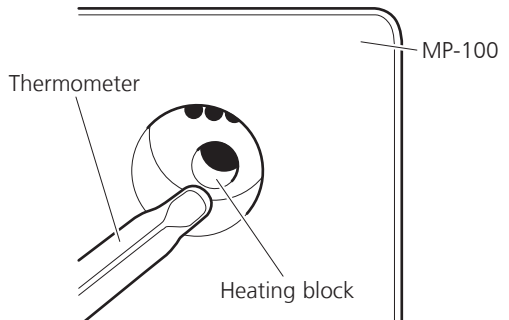

Fig 3
4. Insert the bulb of the non-toxic spirit filled thermometer into the side of the heating block (see Fig 3), while resting the other end in the slot on the right hand side.